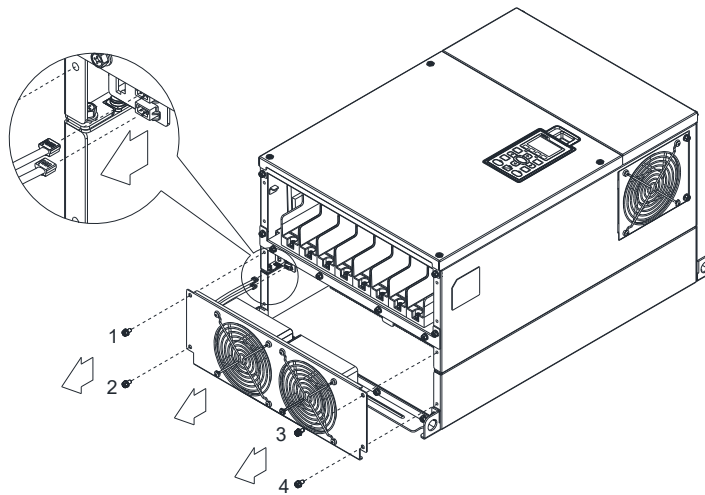

Figure 1
1. Loosen screw 1–4 (figure 1) and disconnect fan power and pull out the fan. (As shown in the enlarged picture 3) Screw 1–4 Torque: 24–26 kg-cm / [20.8–22.6 lb-in.] / [2.4–2.5 Nm]